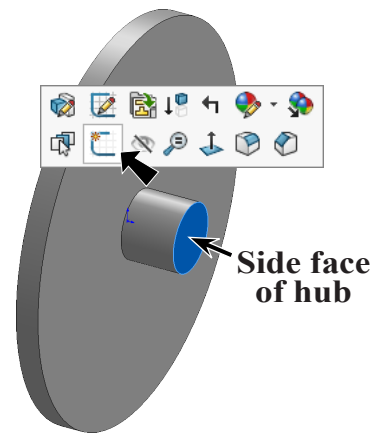
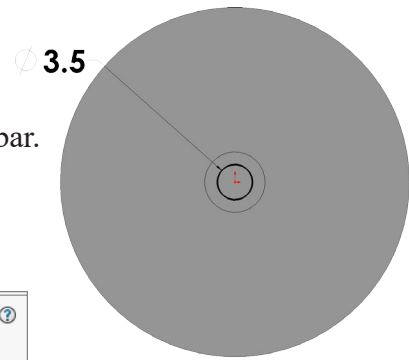

Fig. 8
Fig. 9
Step 1. Click the **side face of hub** and click **Sketch**  on the context toolbar, Fig. 8.
Step 3. Click **Circle**  (S) on the Sketch toolbar.
Step 4. Sketch a circle for the hole at Origin , Fig. 9.
Step 5. Click **Smart Dimension**  (S) on the Sketch toolbar.
Step 6. Dimension axle hole **diameter 3.5**, Fig. 9.